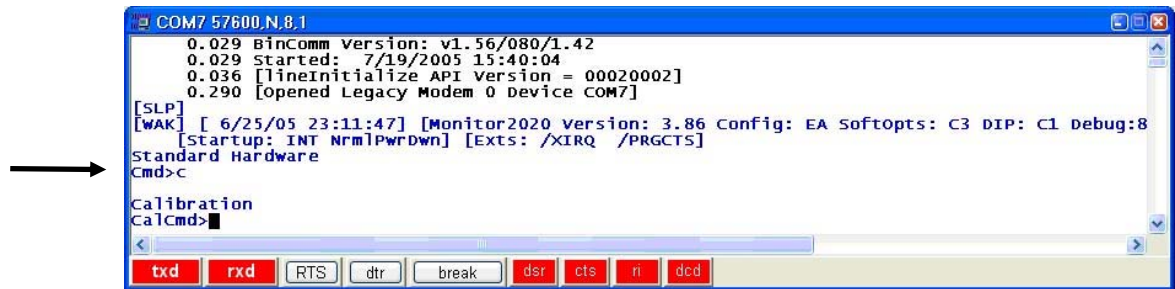

Fig. 9.2: Enter Calibration Mode
- 9.2.4 On the floating terminal screen, assert **rts** (Alt-R or click on “rts”). This awakens the Monitor from sleep mode. (Fig. 9.2)
- 9.2.5 Type a **c** at the **Cmd>** prompt (**Cmd>c**) to enter the **Calibration** Mode. Fig. 9.2